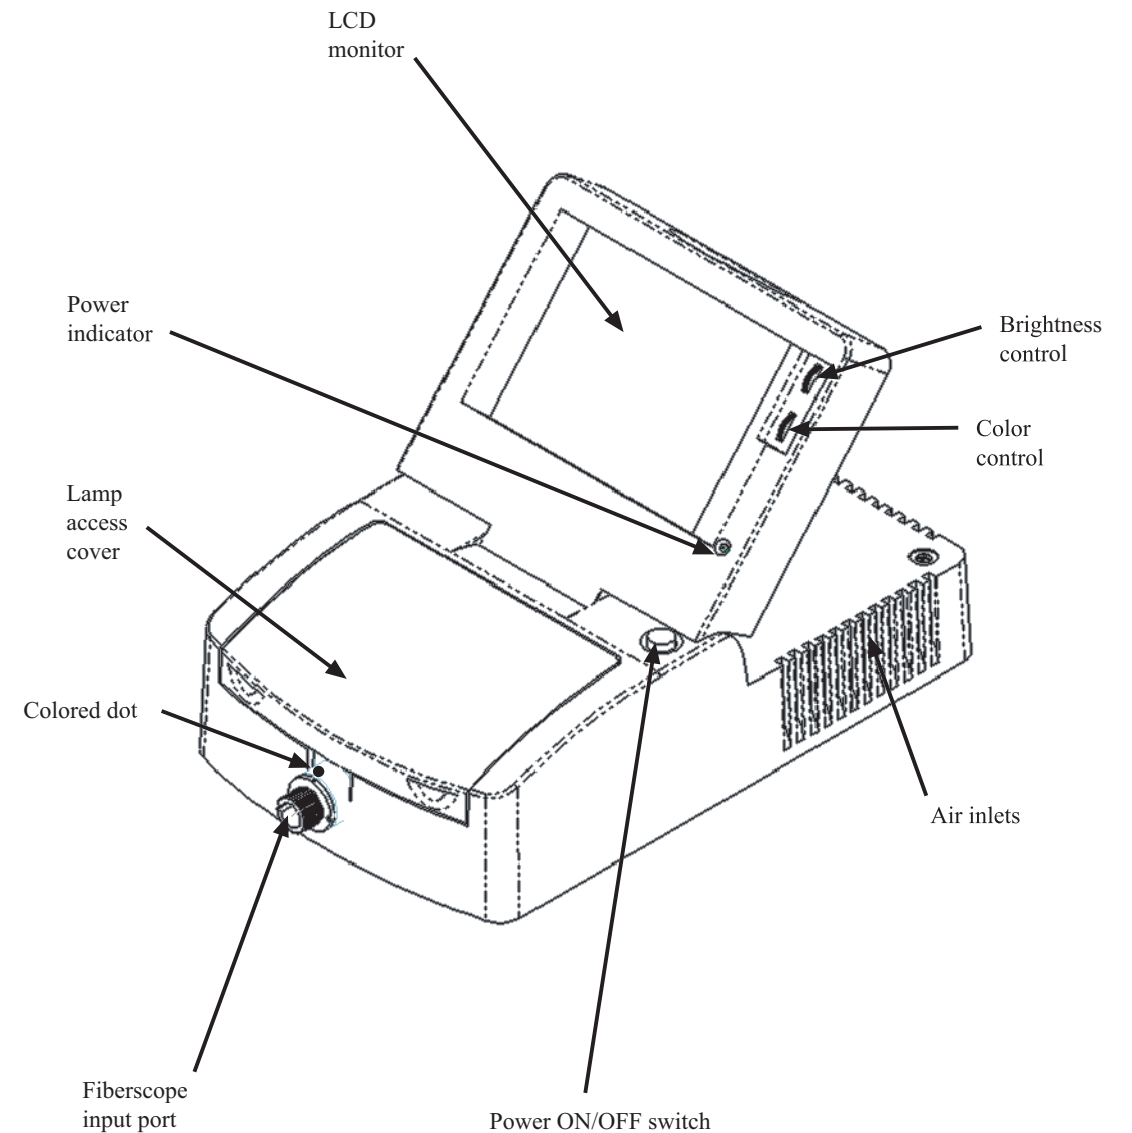

Figure 1. TrachView™ video box, front view.
- b. Make sure the lamp access cover is completely closed (Fig. 1).